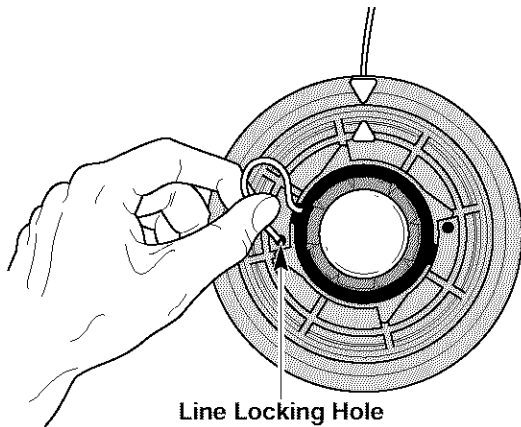

Fig. 22
5. Insert the line into the locking hole (Fig. 22). Do not push the line more than a 1/2 inch (12.7 mm) into the line locking hole. The line will form a small loop (Fig. 22) when it is inserted correctly.